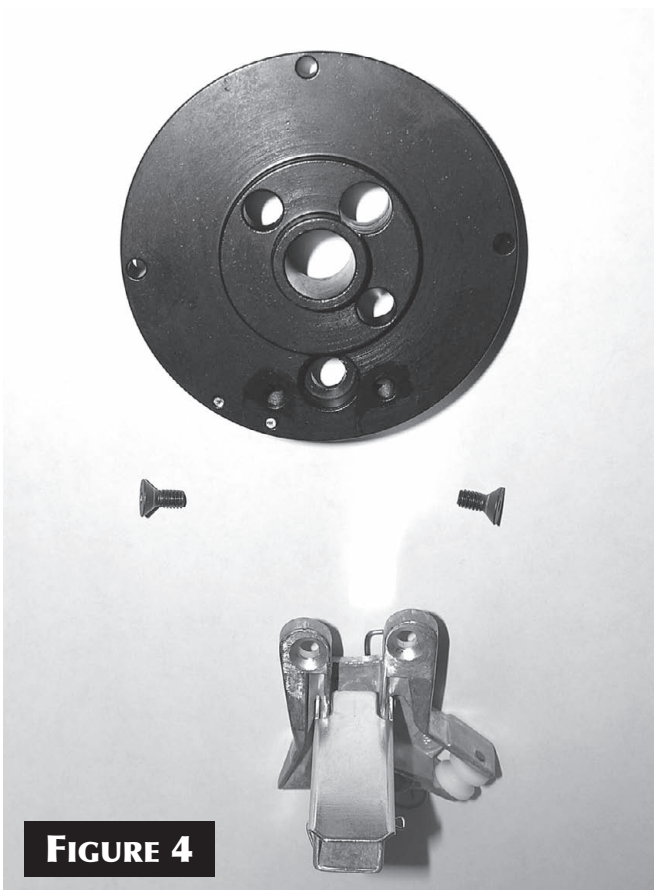

FIGURE 4
screws located toward the center of the platform, with the supplied 3/16" Allen wrench. Once you have the platform off the machine, disassemble the roller bracket from the platform [FIGURE 4] by removing the two flat head screws, with the supplied 3/32" Allen wrench.
4. Next, remove the platform assembly [FIGURE 4] from the machine. This is accomplished by removing the two cap